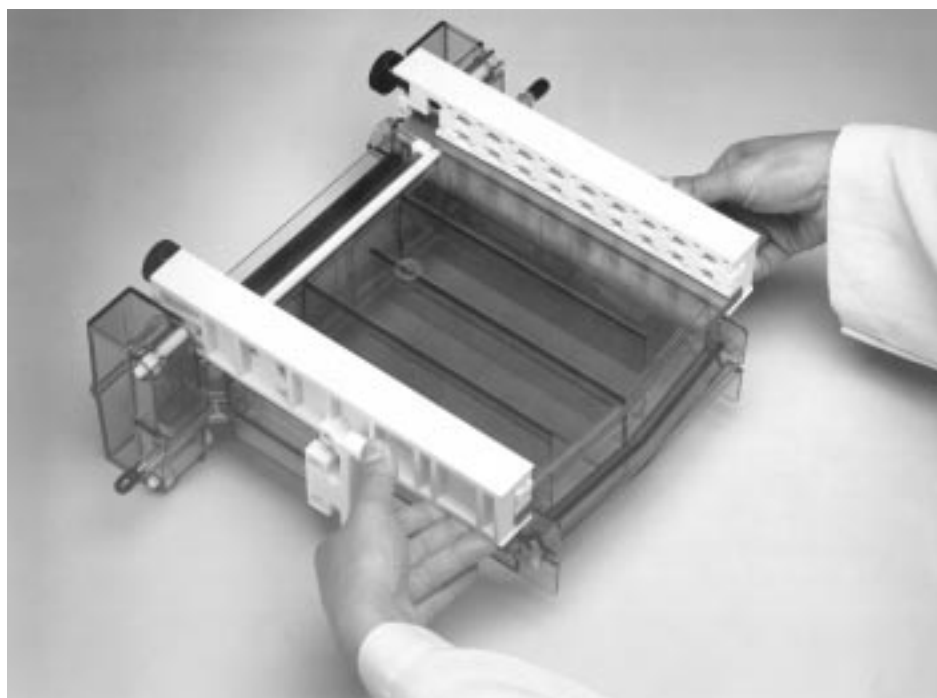

Fig. 3.2.
1. With the short glass plate facing the cooling core (and the locating decal on the clamps facing the core) position the gel sandwich so that the grooves in the upper portion of the clamps line up with the locating pins on the central cooling core. The gel sandwich will be at approximately a 30° angle, with the outer glass plate against the U-shaped gasket and the tabs of each clamp against the white latch assembly on the side of the cooling core (Figure 3.2).